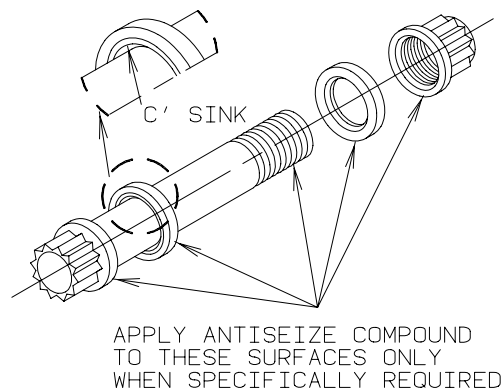

Figure 312 - Wheel Tie Bolts
**NOTE:** All Torque values listed on Cleveland Products are considered to be “DRY TORQUE” values unless “LUBTORK” is specified. “LUBTORK” requires the application of an antiseize compound conforming to MIL-T-5444 or MIL-T-83483 to all friction surfaces as shown in Figure 312. Only use the antiseize specified for your wheel assembly.
- 2 Install bolts through brake disc and wheel halves. Both plain and countersunk washers may be used. Some designs use bolts that have a radius between the head and shank, which requires the countersunk washers. Inspect bolts and washers prior to assembly. (Ref. Figure 312). Properly oriented washers with countersunk surfaces to sit flush against the bolt head. Install washers and nuts on bolts (bolt heads are to be on brake disc side of wheel). Torque nuts to value specified on wheel casting or nameplate, using a crisscross pattern until all nuts are properly torqued. Do not use power tools for the installation of nuts and bolts.